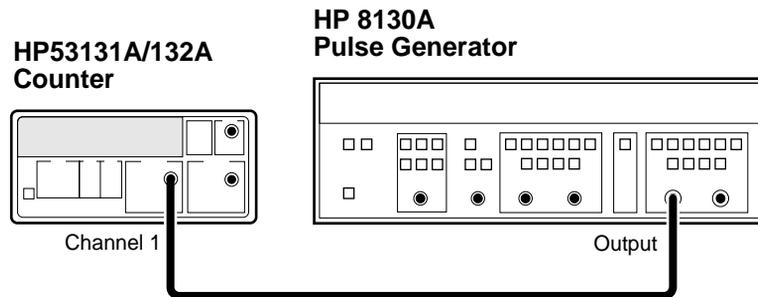

Figure 2-3. Calibration Setup for CAL: TI QUIK?
- 3 Connect the HP 8130A Pulse Generator output to Channel 1 of the Counter as shown in Figure 2-3.**